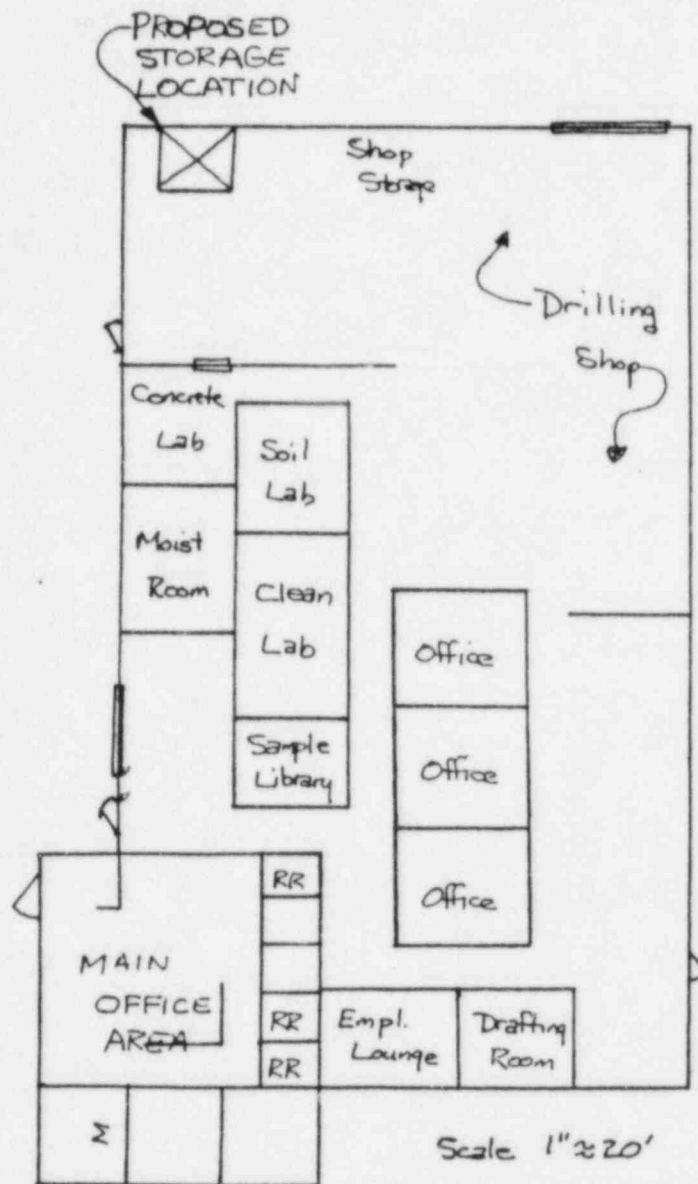
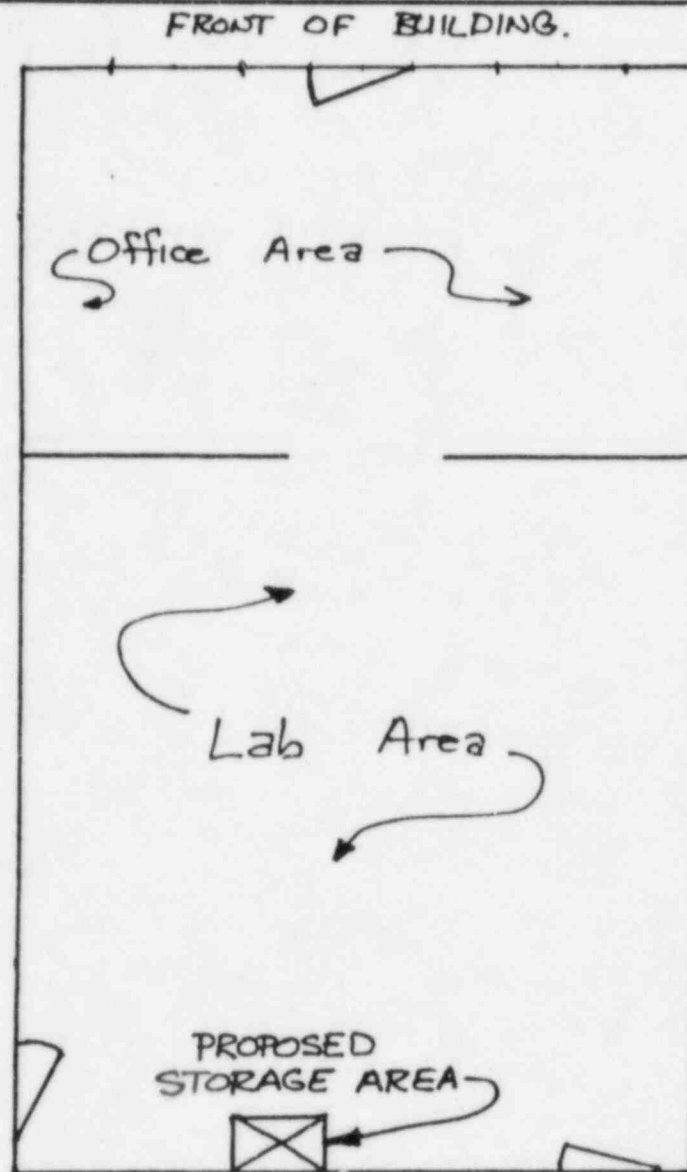

Figure 1.
FIGURE 2
- 1.0 Figure 1 and Figure 2 illustrate the proposed manner in which we will store our nuclear gauges. Doors, windows, desks, and work areas are designated. We have designated the hours per day required for employees for each work area within 10 feet of the gauges.
- 3.1 I certify that Figure 1 and Figure 2 are accurate representations of our storage intentions. I also certify that the gauges will be stored on temporary jobsites in accordance with the same instructions, procedures, and recommendations for permanent storage, as closely as is practical.